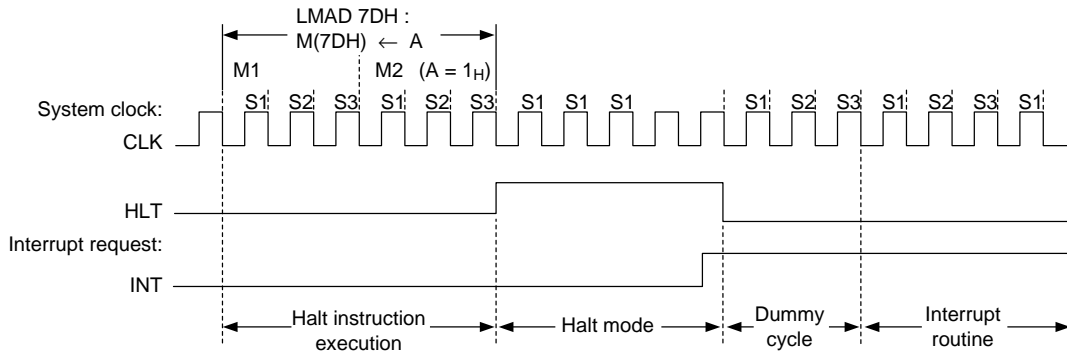
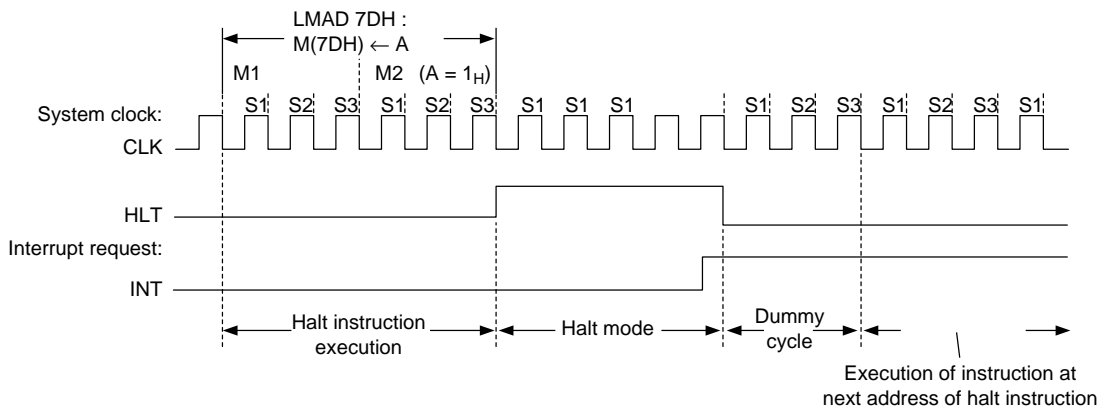

Figure 3-4 Timing of Halt Mode Set and Halt Mode Reset by Interrupt (when the MI flag = 1)
Figure 3-5 Timing of Halt Mode Set and Halt Mode Reset by Interrupt (when the MI flag = 0)
System reset or an interrupt can release halt mode (reset of the HLT flag). To release halt mode by an interrupt, it is necessary to set the interrupt enable flag to "1" before entering halt mode. Figure 3-4 shows timing to enter halt mode and release timing of halt mode by an interrupt.
Execution of instructions after the release of halt mode depends on the status of the master interrupt enable flag (MI). When the MI flag is "1", execution of instructions is resumed after one dummy cycle by an interrupt process routine as shown in Figure 3-4. When the MI flag is "0", execution of instructions is resumed with a dummy cycle after the following address that the halt instruction is placed as shown in Figure 3-5.